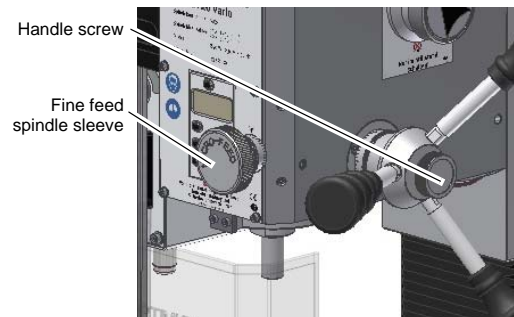

Fig.4-7: Fine feed
- Loosen the handle screw (☞ Fig.4-7: „Fine feed“ on page 32) .